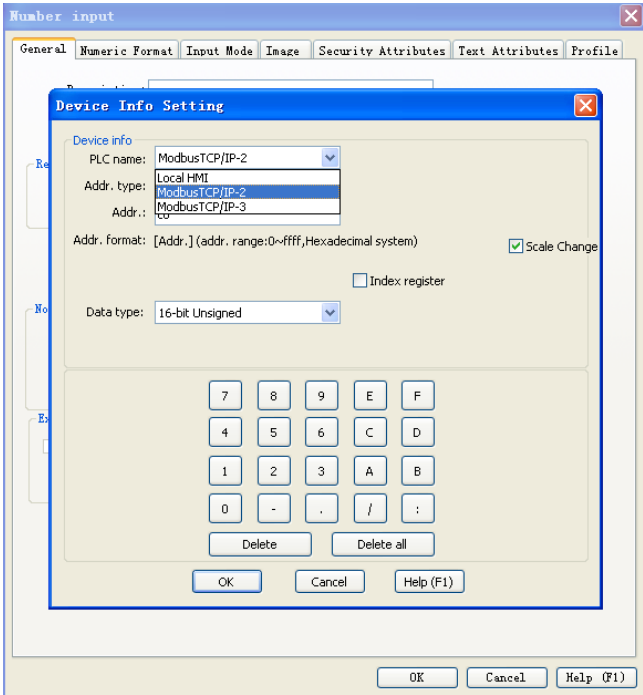

Figure 18
- 3) Then, set the PLC and relevant address to be accessed, as shown in figure 18.